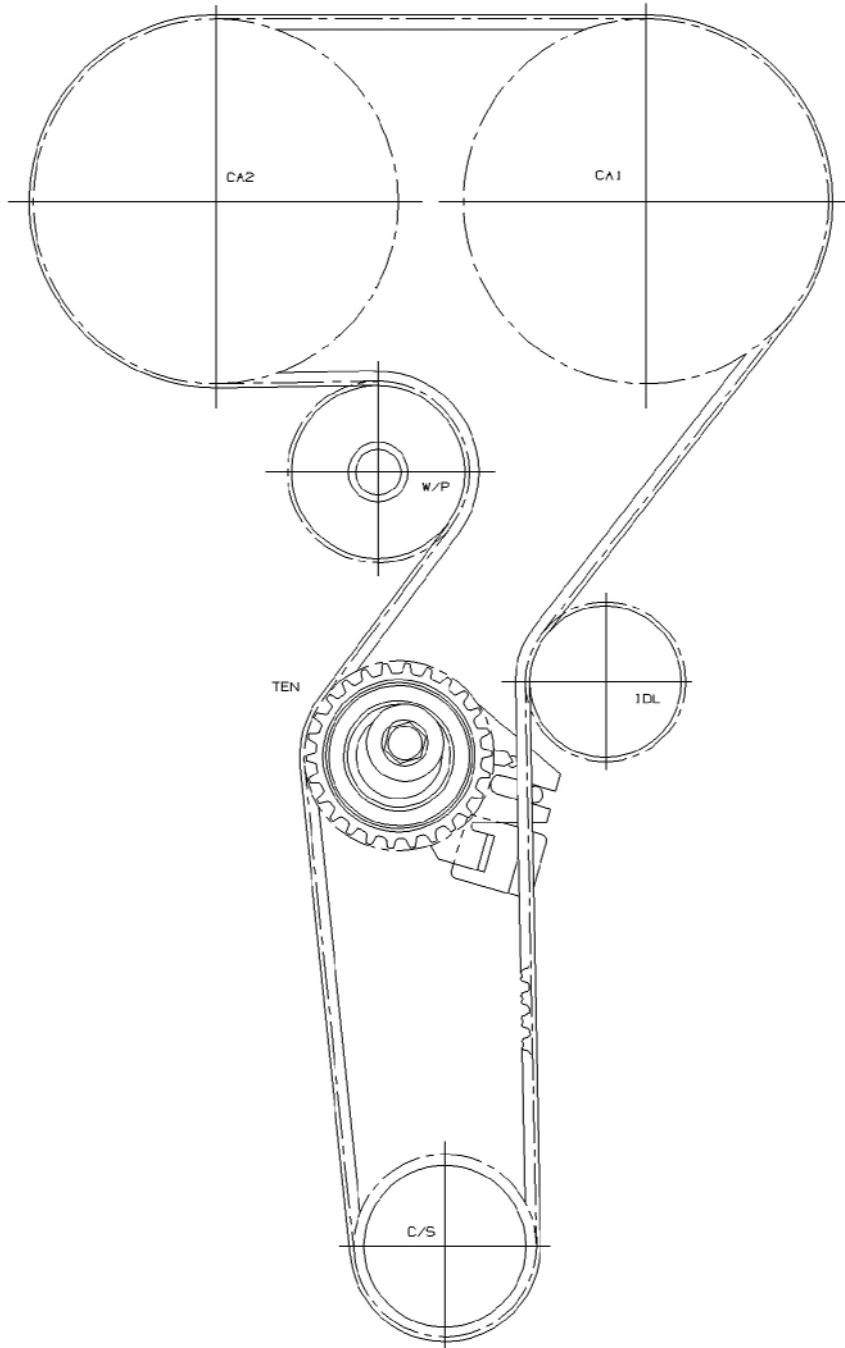

Figure 2: Belt Layout for 979234 (FIAT 2.0/2.4L DOHC, 5 Cylinder).
6. Install the timing belt being careful to engage the appropriate teeth of all the corresponding sprockets as per drive layout (See Figure 2).